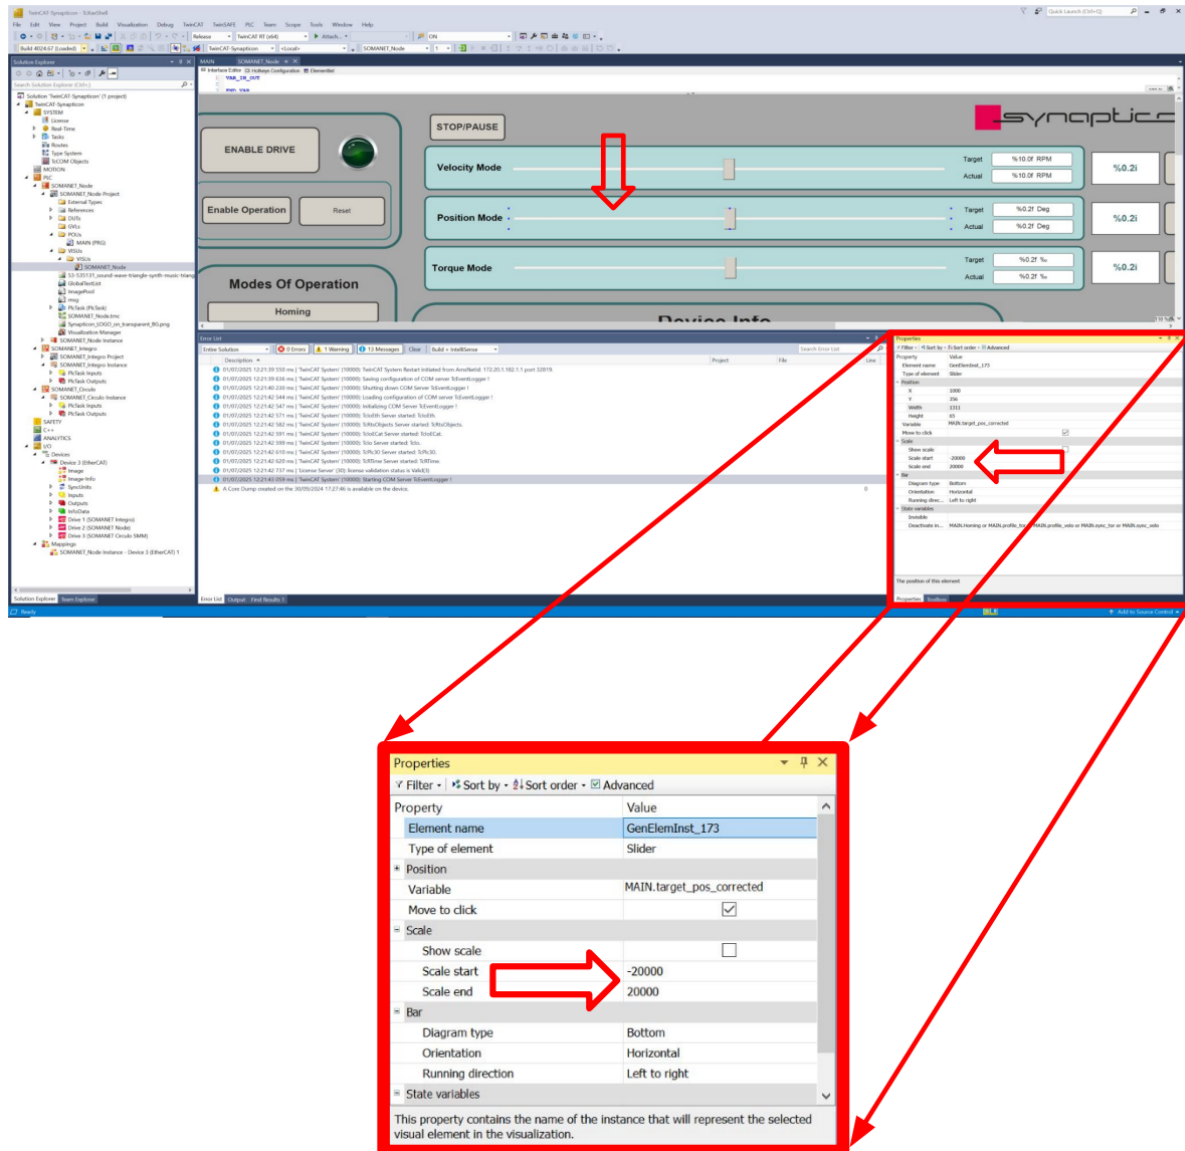

Figure 5.27 - Setting up encoder resolution in the GUI
22. After the GUI opens, click on the horizontal axis for position. In the Properties box that appears in the right bottom corner, set the *Scale start* and *Scale end* to the encoder resolution. Refer to Figure 5.27.